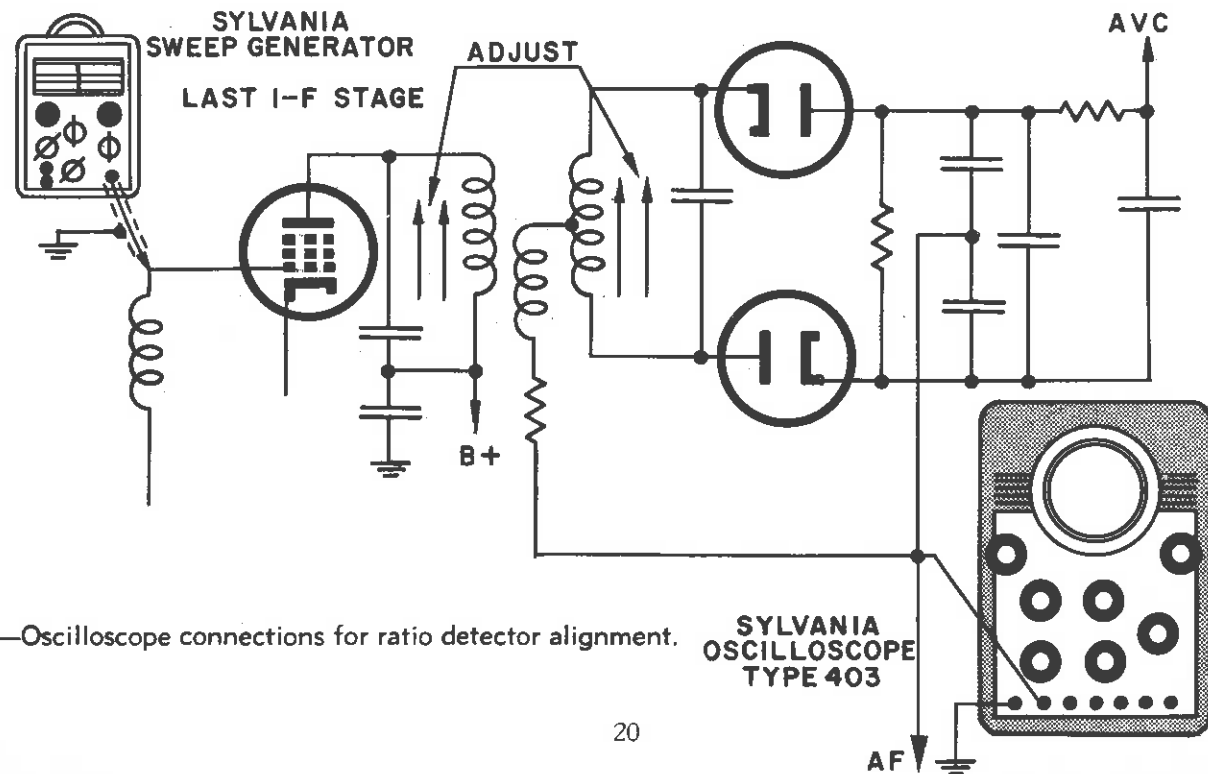

Fig. 18—Oscilloscope connections for ratio detector alignment.
E. **Ratio-Detector Type Receiver.** The i-f amplifier of an f-m receiver using a ratio detector is aligned in the same manner as a discriminator type receiver except that the VERT. IN. terminal of the oscilloscope is connected through a shielded lead to the high side of the detector load resistor as shown in Fig. 18. The i-f amplifier up to and including the primary of the ratio detector transformer may be aligned with this connection.
The secondary of the ratio detector transformer is aligned by transferring the VERT. IN. shielded lead to point B in Fig. 18. The same pattern as for the discriminator alignment, Fig. 17 (A), is obtained using double the sweep frequency of the signal generator. The detector trimmers are adjusted in the same manner as for discriminator alignment to obtain the proper symmetry of the pattern. For close alignment of both primary and secondary trimmers it is necessary to work back and forth with the VERT. IN. terminal connected successively to points A and B of Fig. 18.